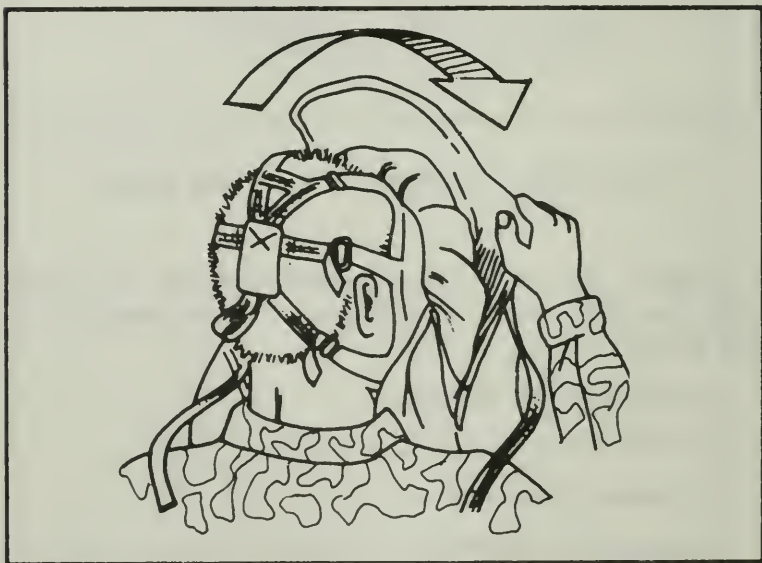

Figure 307. Pull hood over facepiece.
e. Place both hands on the back edge of the hood skirt, raise the hood over your head, and pull it over the front of the mask (Figure 307).